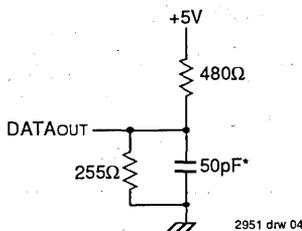

Figure 2. Output Load (for $t_{OHZ}, t_{CHZ}, t_{OLZ}$ and t_{CLZ})
3. This parameter is guaranteed by device characterization with the AC load (Figure 2), but is not production tested.